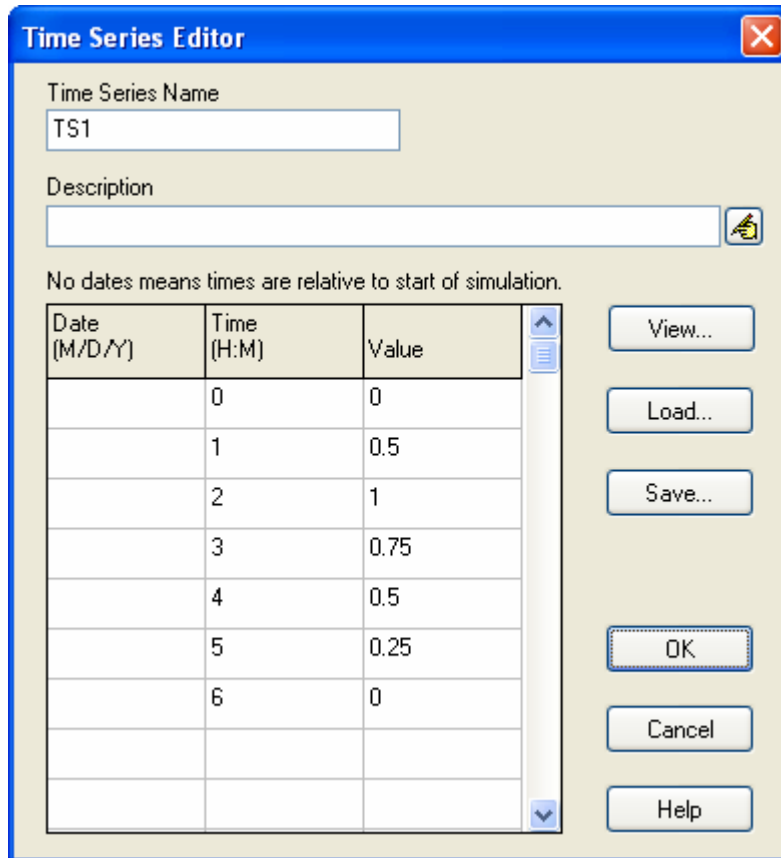

Figure 2-8. Time Series Editor dialog.
2. Click the  button on the Browser to bring up the Time Series Editor dialog (see Figure 2-8)⁷.
4. Enter the values shown in Figure 2.8 into the Time and Value columns of the data entry grid (leave the Date column blank⁸).